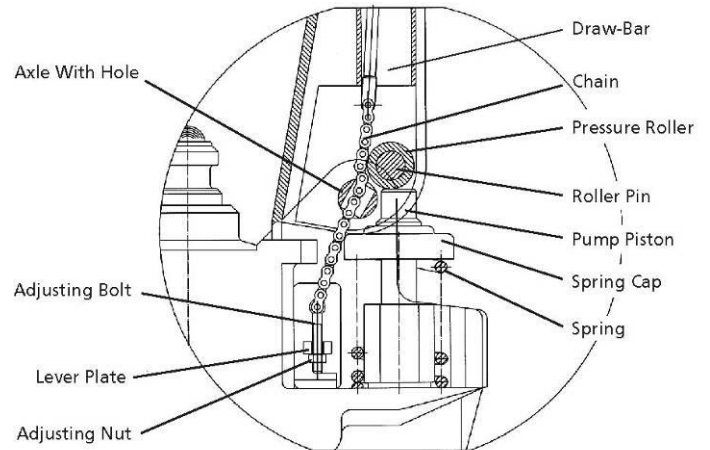
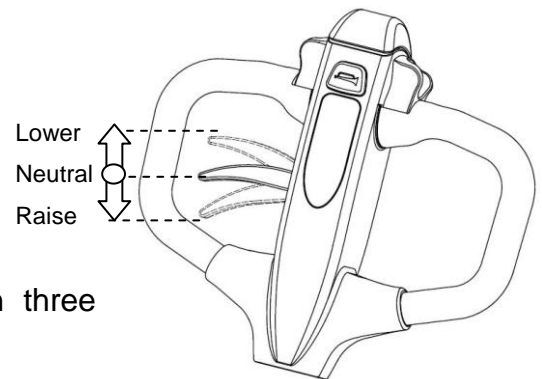

Fig. 7: Side view
Fig. 8: tiller
b) Set the control lever of the handle to the 'Lower' position, then pass the adjusting nut, adjusting bolt through the hole of the axle with your hand (fig. 7).
d) Set the control lever (fig. 8) of the handle to 'RAISE' position, then raise the lever plate and insert the adjusting bolt into the front slot of lever plate. Note: Keep the adjusting nut under the lever plate. (fig. 7)
The ESET33N multifunction tiller can be regulated in three positions (fig. 8):
If necessary, you can adjust the lever according to following steps (fig. 7):